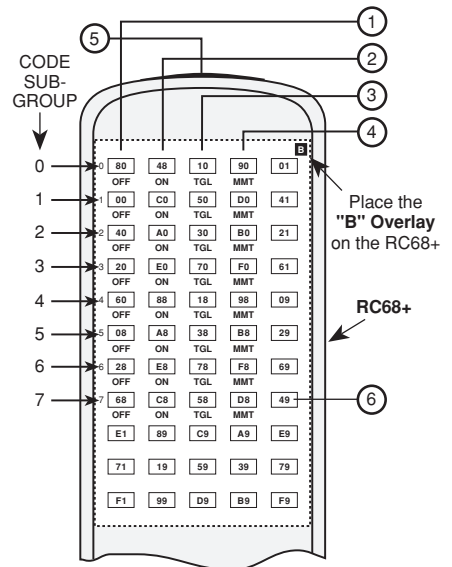

Fig. 2 The RC68 Programmer
The RC68+ has 11 rows of 5 buttons each. Each row, identified by the numbers 0 through 7 (see Fig. 2), will execute the same set of 4 commands listed above, when selected by the **CODE SUB-GROUP** switch on the CC12. This is useful to prevent mutual interaction in common IR systems when using more than one CC12, or if SR21's are used with CC12's.
- You would then program one button on the Handheld Learning Remote with the MOMENTARY(MMT) command from the RC68+ (or RC68) Programmer. Refer to **Fig. 2**.
- For this type of operation, you would program one button on the Handheld Learning Remote with the **Pair OFF** command (UP) from the RC68+ Programmer, and a 2nd button with the **Pair ON** command (DOWN). See **Fig. 2**.